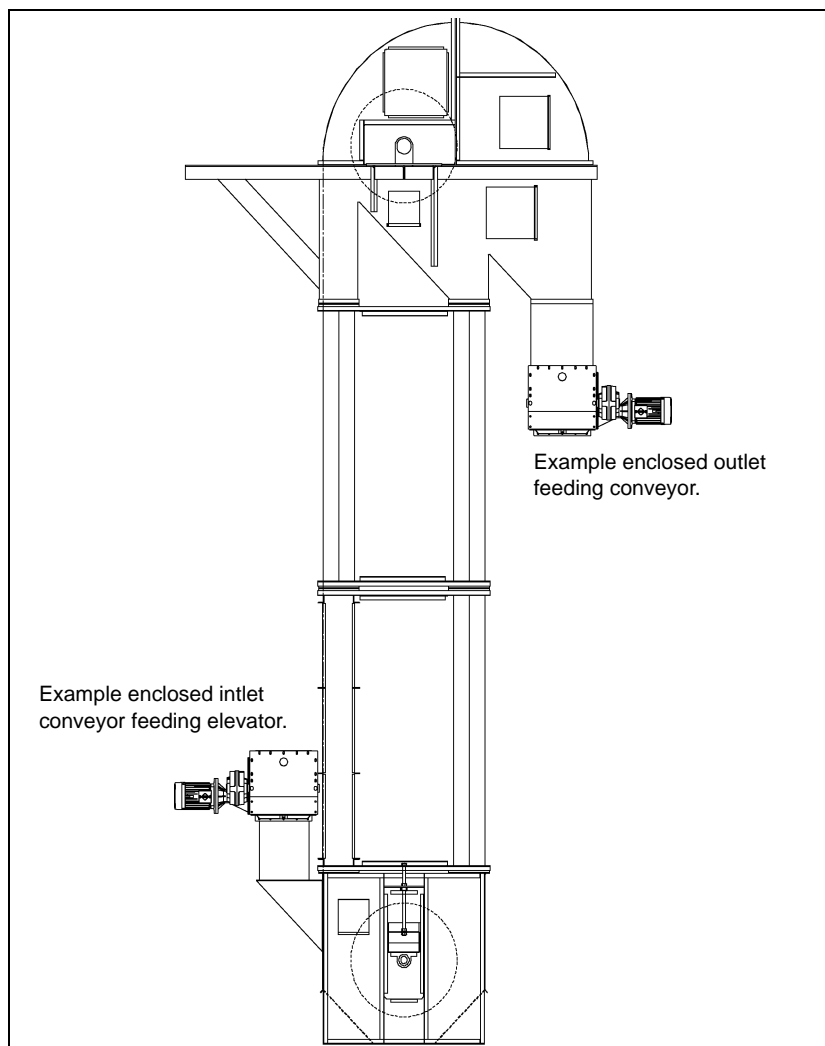

Figure 2A *Example of Enclosed Inlet and Outlet*
2. Never operate the chain conveyor without completely enclosing all inlets and outlets, making all moving parts inaccessible to any person. (See Figure 2A.)